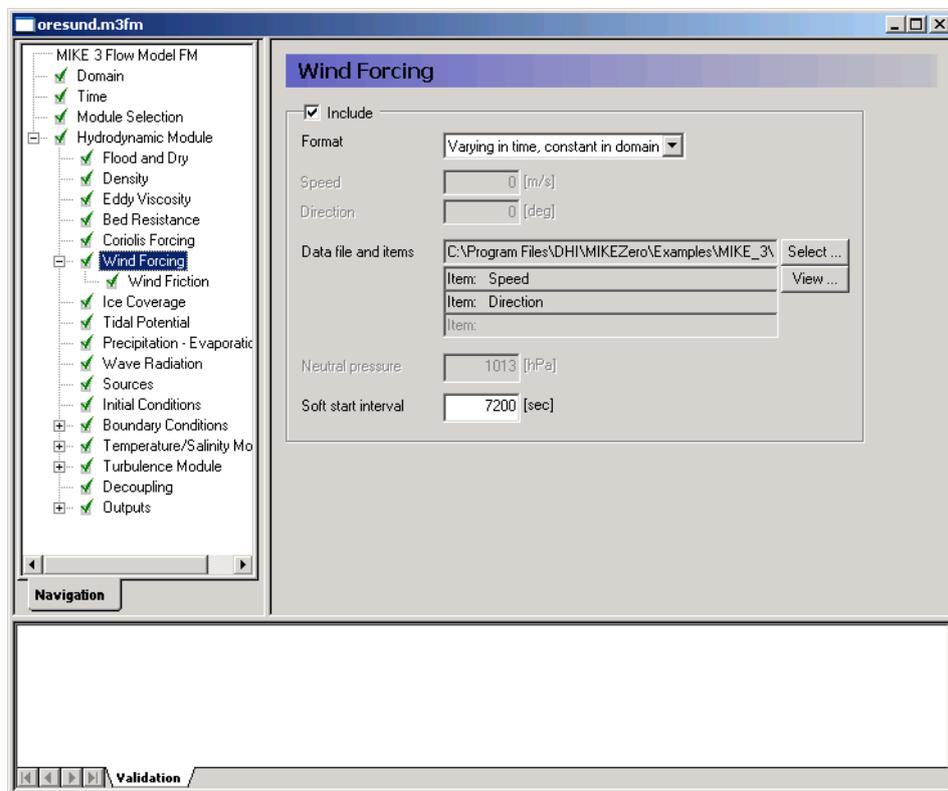

Figure 6.13 MIKE 3 Flow Model FM. Wind Forcing specification
**Note** that an easy way to see the Wind data file is to simply click  in the Wind Forcing dialogue, see Figure 6.13.